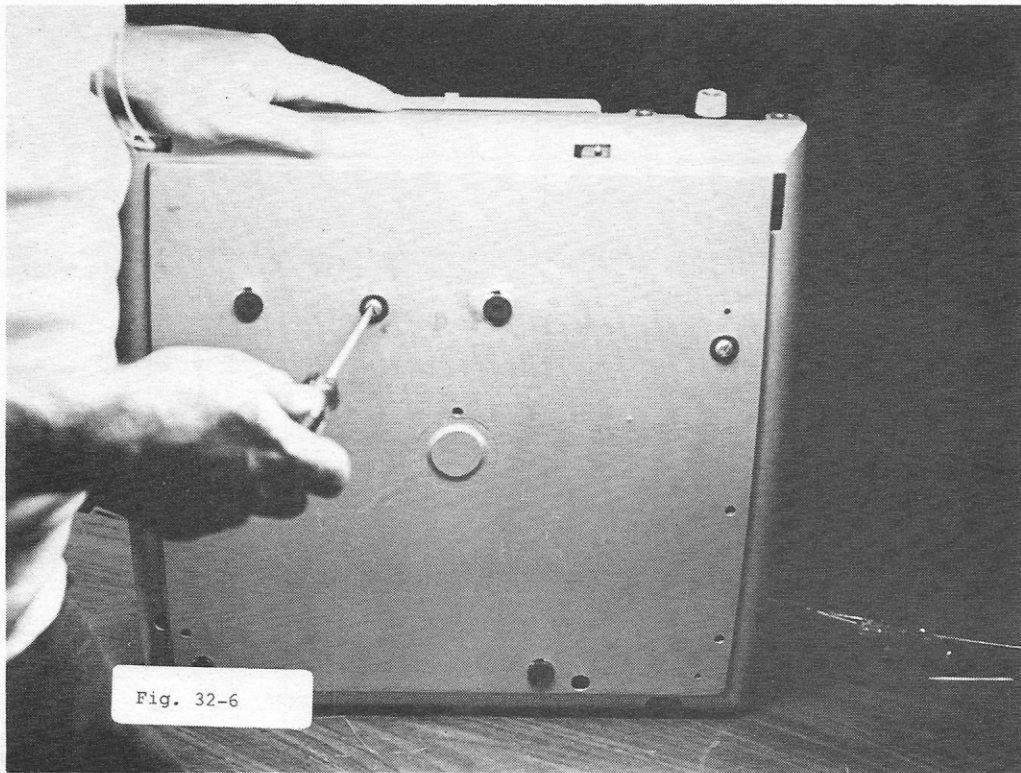

Fig. 32-6
5. Make sure the shipping screw (Fig. 32-6) is removed.